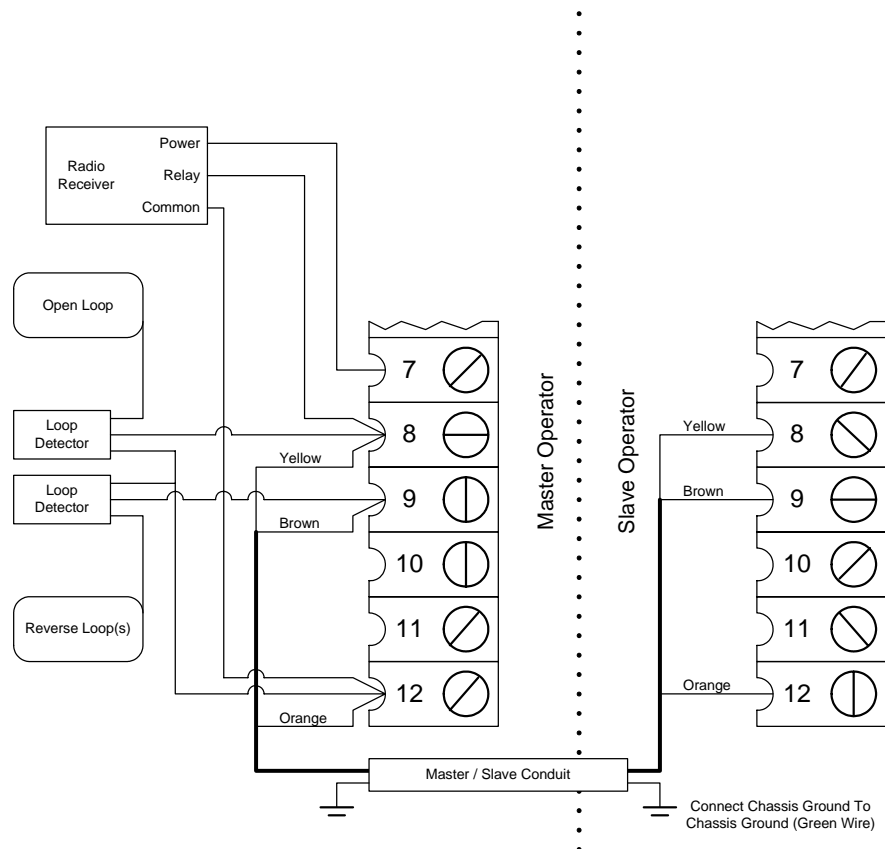

Figure 29
1. Connect the master / slave wiring (terminals 8, 9, 12) as shown in figure 29. Be sure that power to both operators is OFF.
2. Connect the common (C) and normally open (N.O.) relay contacts from the OPEN loop detector to terminals 8 and 12.